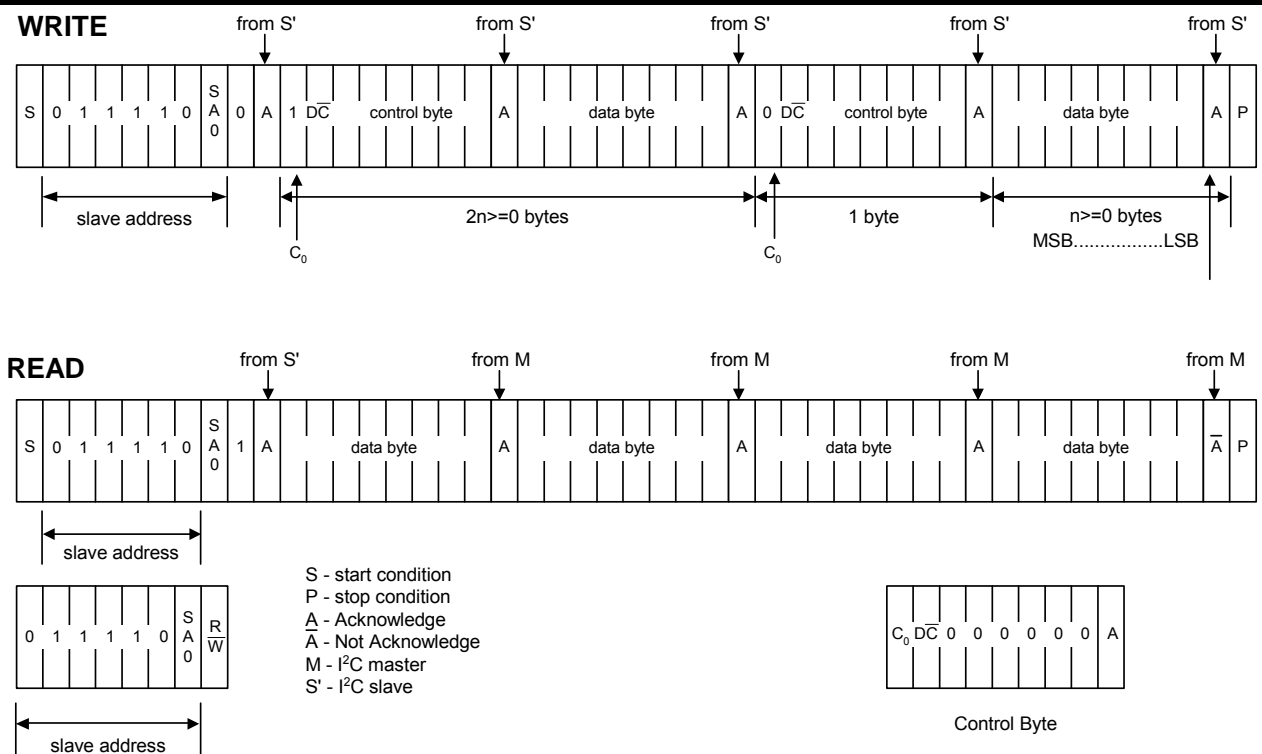

Figure 7 I²C Protocol
The SH1106 supports both read and write access. The R/\bar{W} bit is part of the slave address. Before any data is transmitted on the I²C-bus, the device that should respond is addressed first. Two 7-bit slave addresses (0111100 and 0111101) are reserved for the SH1106. The least significant bit of the slave address is set by connecting the input SA0 to either logic 0(VSS) or 1 (VDD1). The I²C-bus protocol is illustrated in Fig.7. The sequence is initiated with a START condition (S) from the I²C-bus master that is followed by the slave address. All slaves with the corresponding address acknowledge in parallel, all the others will ignore the I²C-bus transfer. After acknowledgement, one or more command words follow which define the status of the addressed slaves. A command word consists of a control byte, which defines Co and D/\bar{C} (note1), plus a data byte (see Fig.7). The last control byte is tagged with a cleared most significant bit, the continuation bit Co. After a control byte with a cleared Co-bit, only data bytes will follow. The state of the D/\bar{C} -bit defines whether the data-byte is interpreted as a command or as RAM-data. The control and data bytes are also acknowledged by all addressed slaves on the bus. After the last control byte, depending on the D/\bar{C} bit setting, either a series of display data bytes or command data bytes may follow. If the D/\bar{C} bit was set to '1', these display bytes are stored in the display RAM at the address specified by the data pointer. The data pointer is automatically updated and the data is directed to the intended SH1106 device. If the D/\bar{C} bit of the last control byte was set to '0', these command bytes will be decoded and the setting of the device will be changed according to the received commands. The acknowledgement after each byte is made only by the addressed slave. At the end of the transmission the I²C-bus master issues a stop condition (P). If the R/\bar{W} bit is set to one in the slave-address, the chip will output data immediately after the slave-address according to the D/\bar{C} bit, which was sent during the last write access. If no acknowledge is generated by the master after a byte, the driver stops transferring data to the master.